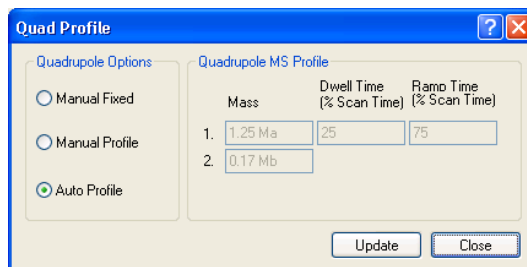

Figure 47 - Quad Profile
1. Set the Quad Profile as in Figure 47.